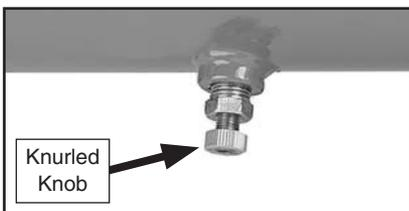

Figure 5. Drain valve.
5. Leave the drain valve (**Figure 5**) open, push the switch to the down position or the **ON** position, and allow the compressor to free-run for 15 minutes for a no-load break in before closing the drain valve and allowing it to build air pressure.